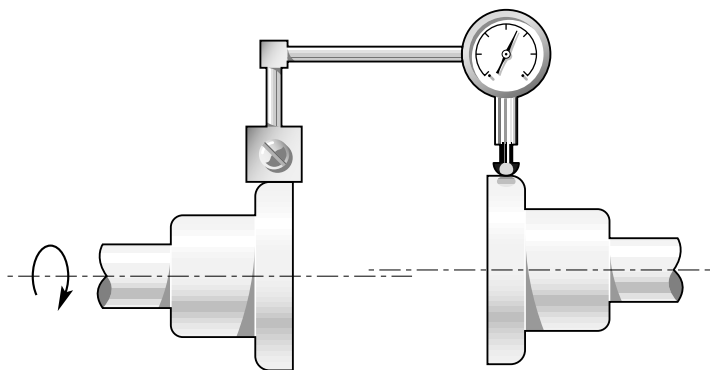
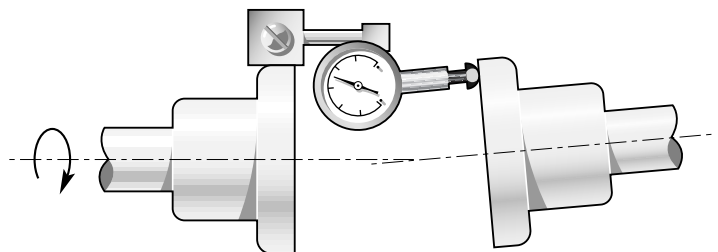

Fig. 2: Measuring Offset Misalignment
Fig. 3: Measuring Angular Misalignment
Good service life of the pump and driver depends upon good alignment through the flexible coupling. If the electric motor was mounted at the factory, the pump and motor were in alignment when shipped. The alignment between the driver and pump should be inspected after installation to ensure that transportation or other handling has not caused misalignment. Poor alignment may cause failure of the coupling, pump, or motor bearings, or of either shaft. The recommended procedure for coupling alignment is to use a dial indicator, as shown in Fig. 2 and Fig. 3.
6. Remove the casing clamp assembly (47) by removing the nuts. Remove the eight casing nuts (41). Remove all casing bolts (35) except the lower two.
7. Remove the frame (18), shaft (5), and impeller (3) as an assembly. The casing (1) should be removed so you can inspect the front casing (Vanway) O-ring (4). The front cover (48) can be left attached to the piping.
8. Remove the oiler assembly (23) – not shown in Fig. 2.
10. Remove the casing O-ring (4) from the back cover (2).